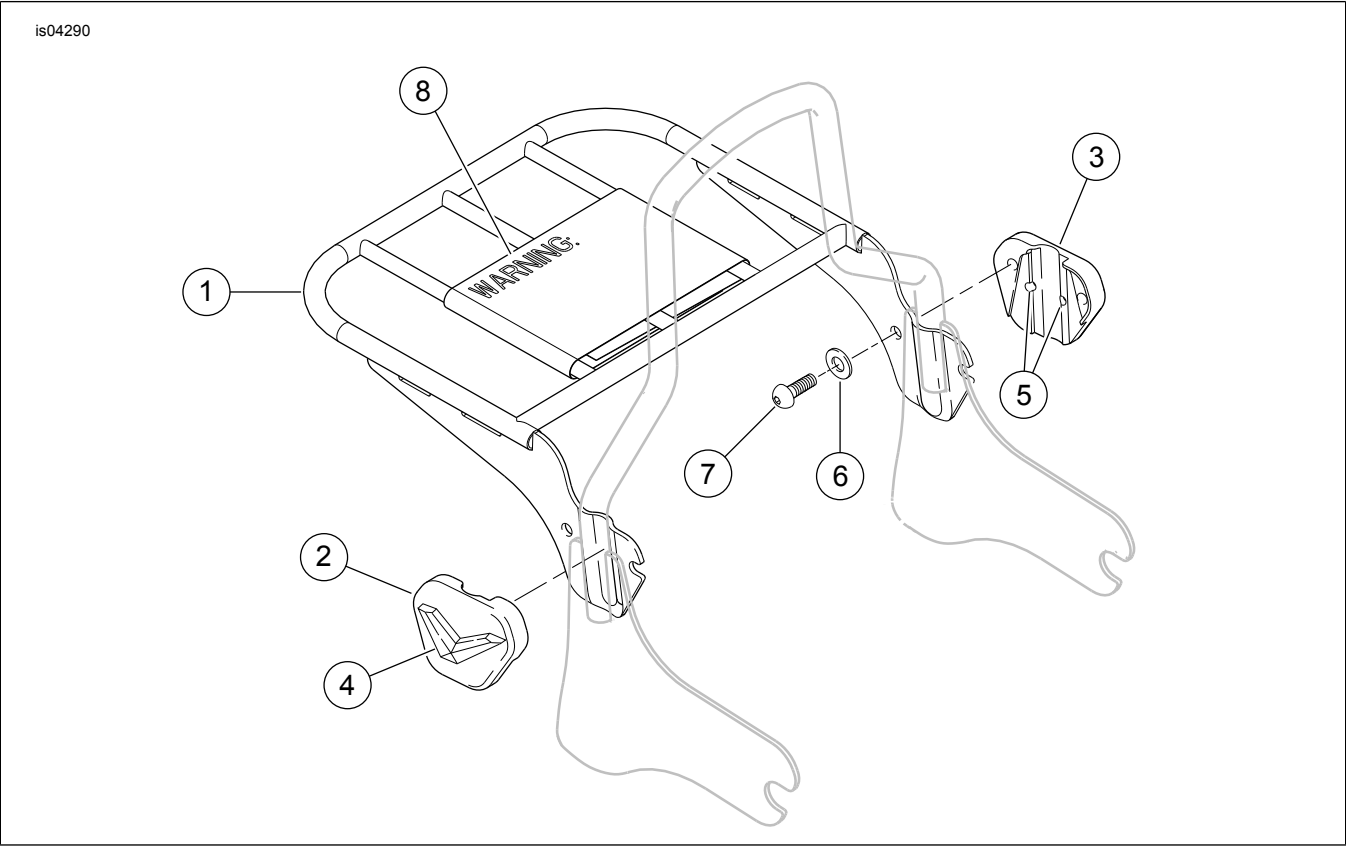

Figure 1. Service Parts: Detachable Passenger Backrest Luggage Rack Kit
See Figure 1 and Table 1.
1. See Figure 1. If not already assembled in package, assemble V-logo onto each mounting bracket (2 and 3) using #4-40 thread-forming screws (5).
3. Thread button head screws (7) through washers (6), then through holes in luggage rack support and passenger backrest sideplate and into mounting brackets (2 and 3). Apply LOCTITE 243 (Blue) to screws (7) before installation. Finger tighten.
The backrest shown in Figure 1 is not included in this kit and must be purchased separately.